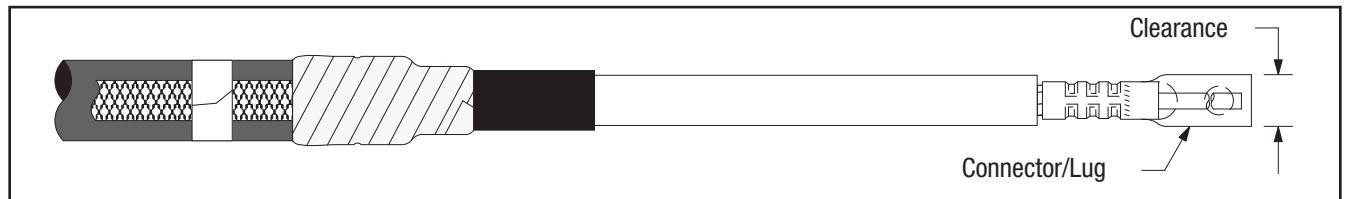

Figure 14
- 9.1 Check to insure 3M Cold Shrink QT-III Silicone Rubber Termination assembly fits over the selected lug or connector BEFORE installing the lug or connector. If lug or connector (Figure 14) will not fit through the termination core, clean the insulation (per Step 10.0) and slide termination on cable before installing lug. **DO NOT REMOVE CORE AT THIS TIME.**